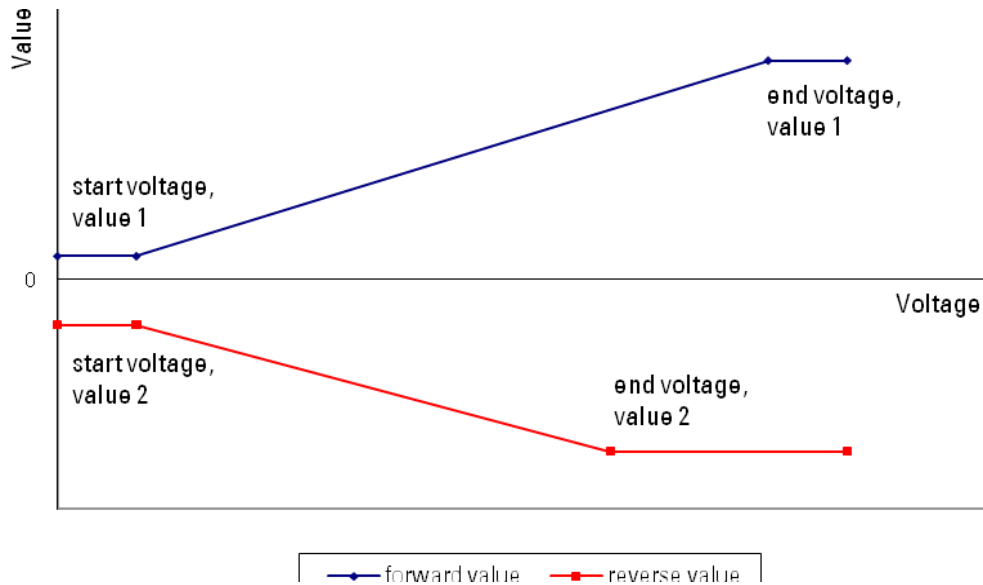
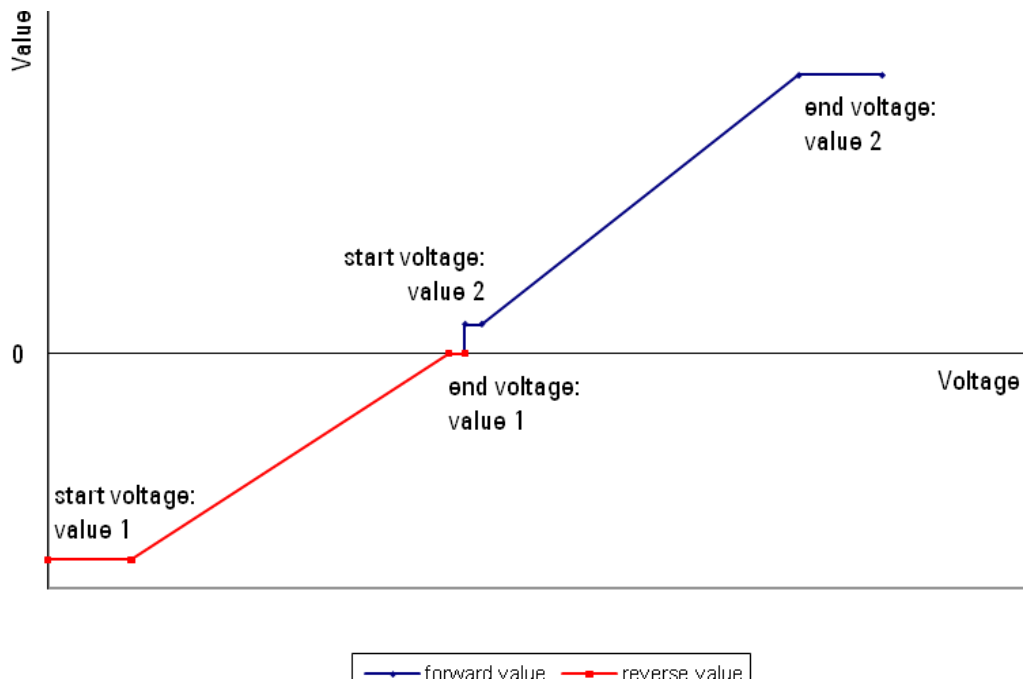

Figure 24 Standard throttle configuration
Figure 25 Directional throttle configuration
- Define the throttle voltage input: this is the relationship between the throttle voltage and the throttle value. Separate relationships can be specified for forward and reverse. Each relationship has two points, a start and an end. The points are configured differently for standard and directional throttles as shown in Figure 24 and Figure 25 respectively.